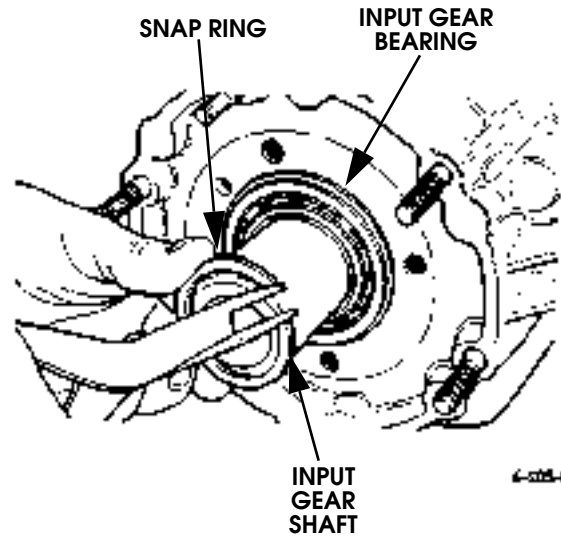

Figure 5-135: Input Gear Snap Ring Installation
4. Install input gear snap ring (Figure 5-135).